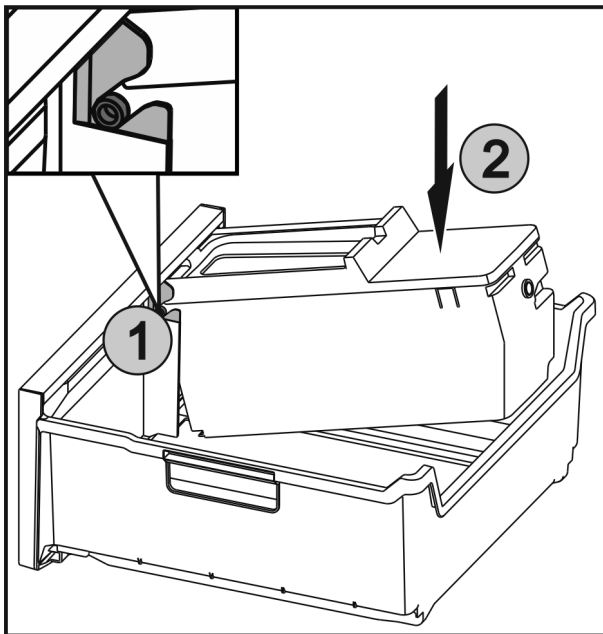

Fig. 40
- ▶ Insert the axles Fig. 40 (1) on the EasyTwist-Ice in the guides and push the rear side Fig. 40 (2) until the lug engages.